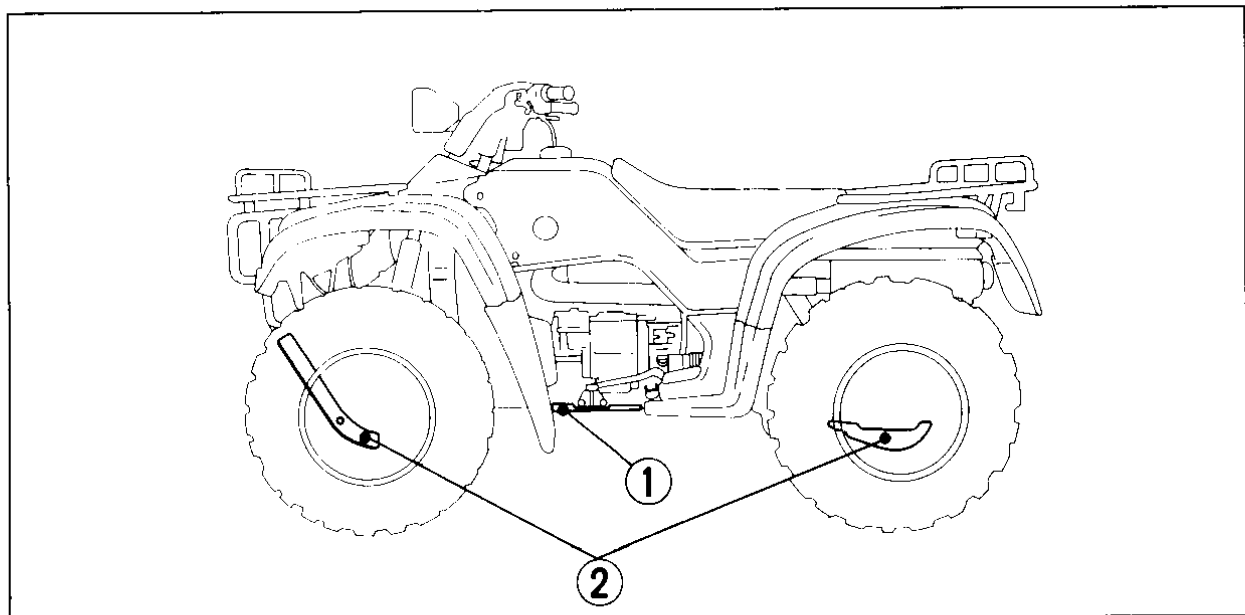

Fig. 4-37
The engine guard (Fig.4-37) protects the engine crankcase. The skid plates (2) protect the frame and rear final gear case. Check the guard and plates for cracks, damage or looseness at intervals shown in the Maintenance Schedule (pages 77—79).